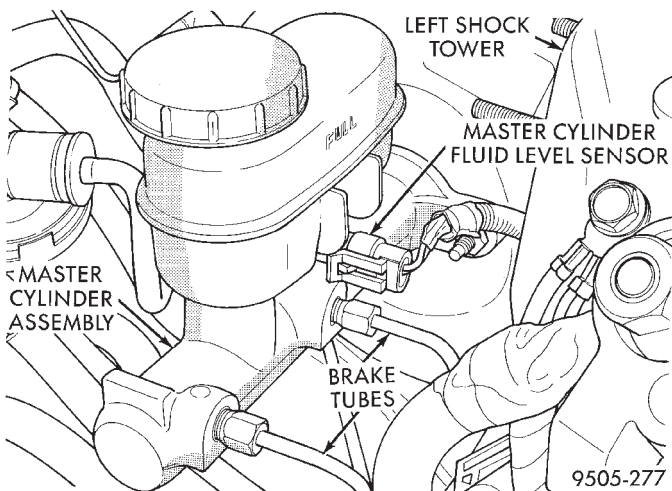

Fig. 59 Master Cylinder Brake Fluid Level Sensor
(7) Remove the vehicle's wiring harness connector from the master cylinder brake fluid level sensor (Fig. 59).
(7) Install the vehicle's wiring harness connector on the master cylinder brake fluid level sensor (Fig. 59).